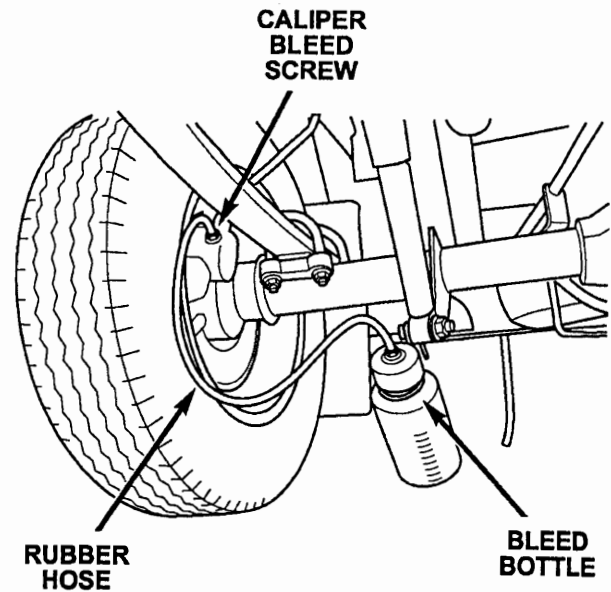

Figure 3 – Right Rear Wheel Shown
12. Connect a bleed bottle to the right rear brake caliper bleeder screw (Figure 3).